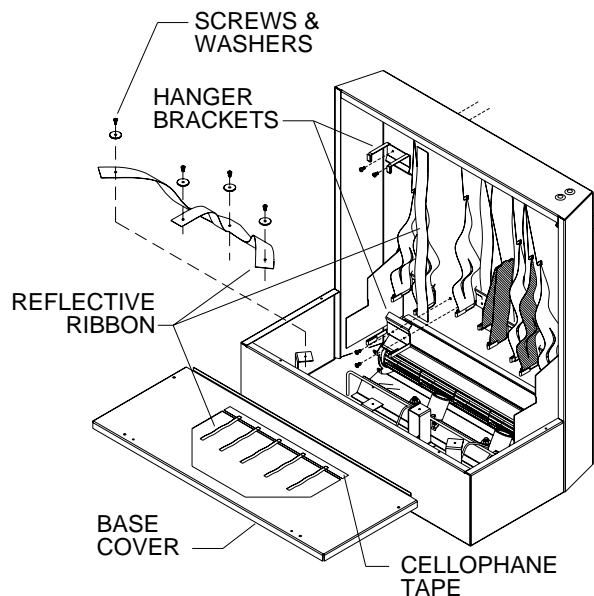

Figure 40 - Replacing Reflective Ribbons
5. Cut an 18" strip of reflective ribbon and position the top end about an inch above the top bracket position. See **Figure 40**.
9. Cut a 9 inch long strip of ribbon and apply across each ribbon support bracket with the shiny side facing up. See **Figure 40**.
11. If replacing the top, reflective ribbons on the base cover, cut a 3 inch section of ribbon and split down the middle. Then with the shiny side up, attach with cellophane tape onto the rear edge of the base cover opening. See **Figure 40**.